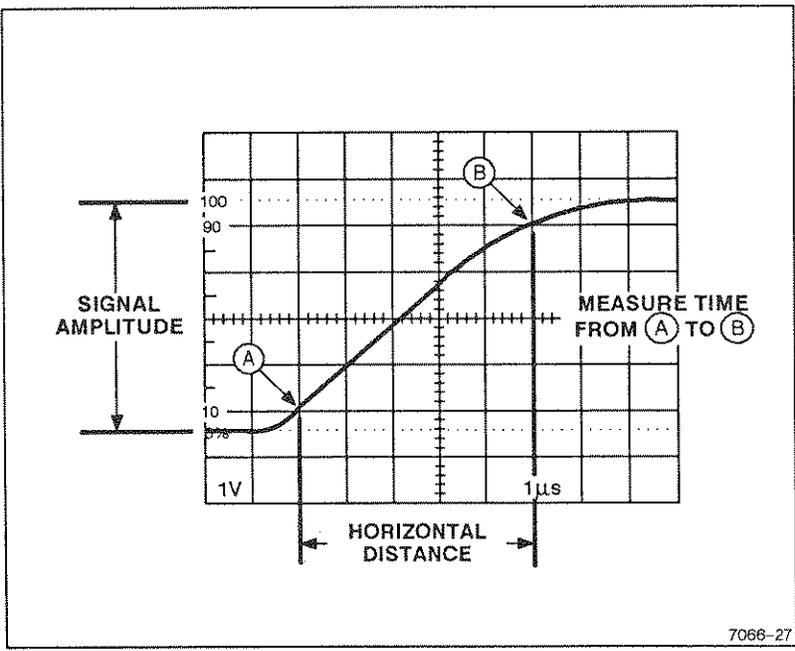

Figure 6-6. Rise time.
Rise-time measurements use the same methods as time duration, except that the measurements are made between the 10% and 90% points on the leading edge of the waveform (see Figure 6-6). Fall time is measured between the 90% and 10% points on the trailing edge of the waveform.
4. Adjust vertical positioning so that the zero reference of the waveform touches the 0% graticule line and the top of the waveform touches the 100% graticule line (see Figure 6-6).
6. Horizontally position the display so the 10% point on the waveform intersects the second vertical graticule line (see Figure 6-6, Point A).
EXAMPLE: The horizontal distance between the 10% and 90% points is 5 divisions (see Figure 6-6), and the A SEC/DIV switch is set to 1 μ s. The X10 magnifier knob is pushed in (1X magnification).